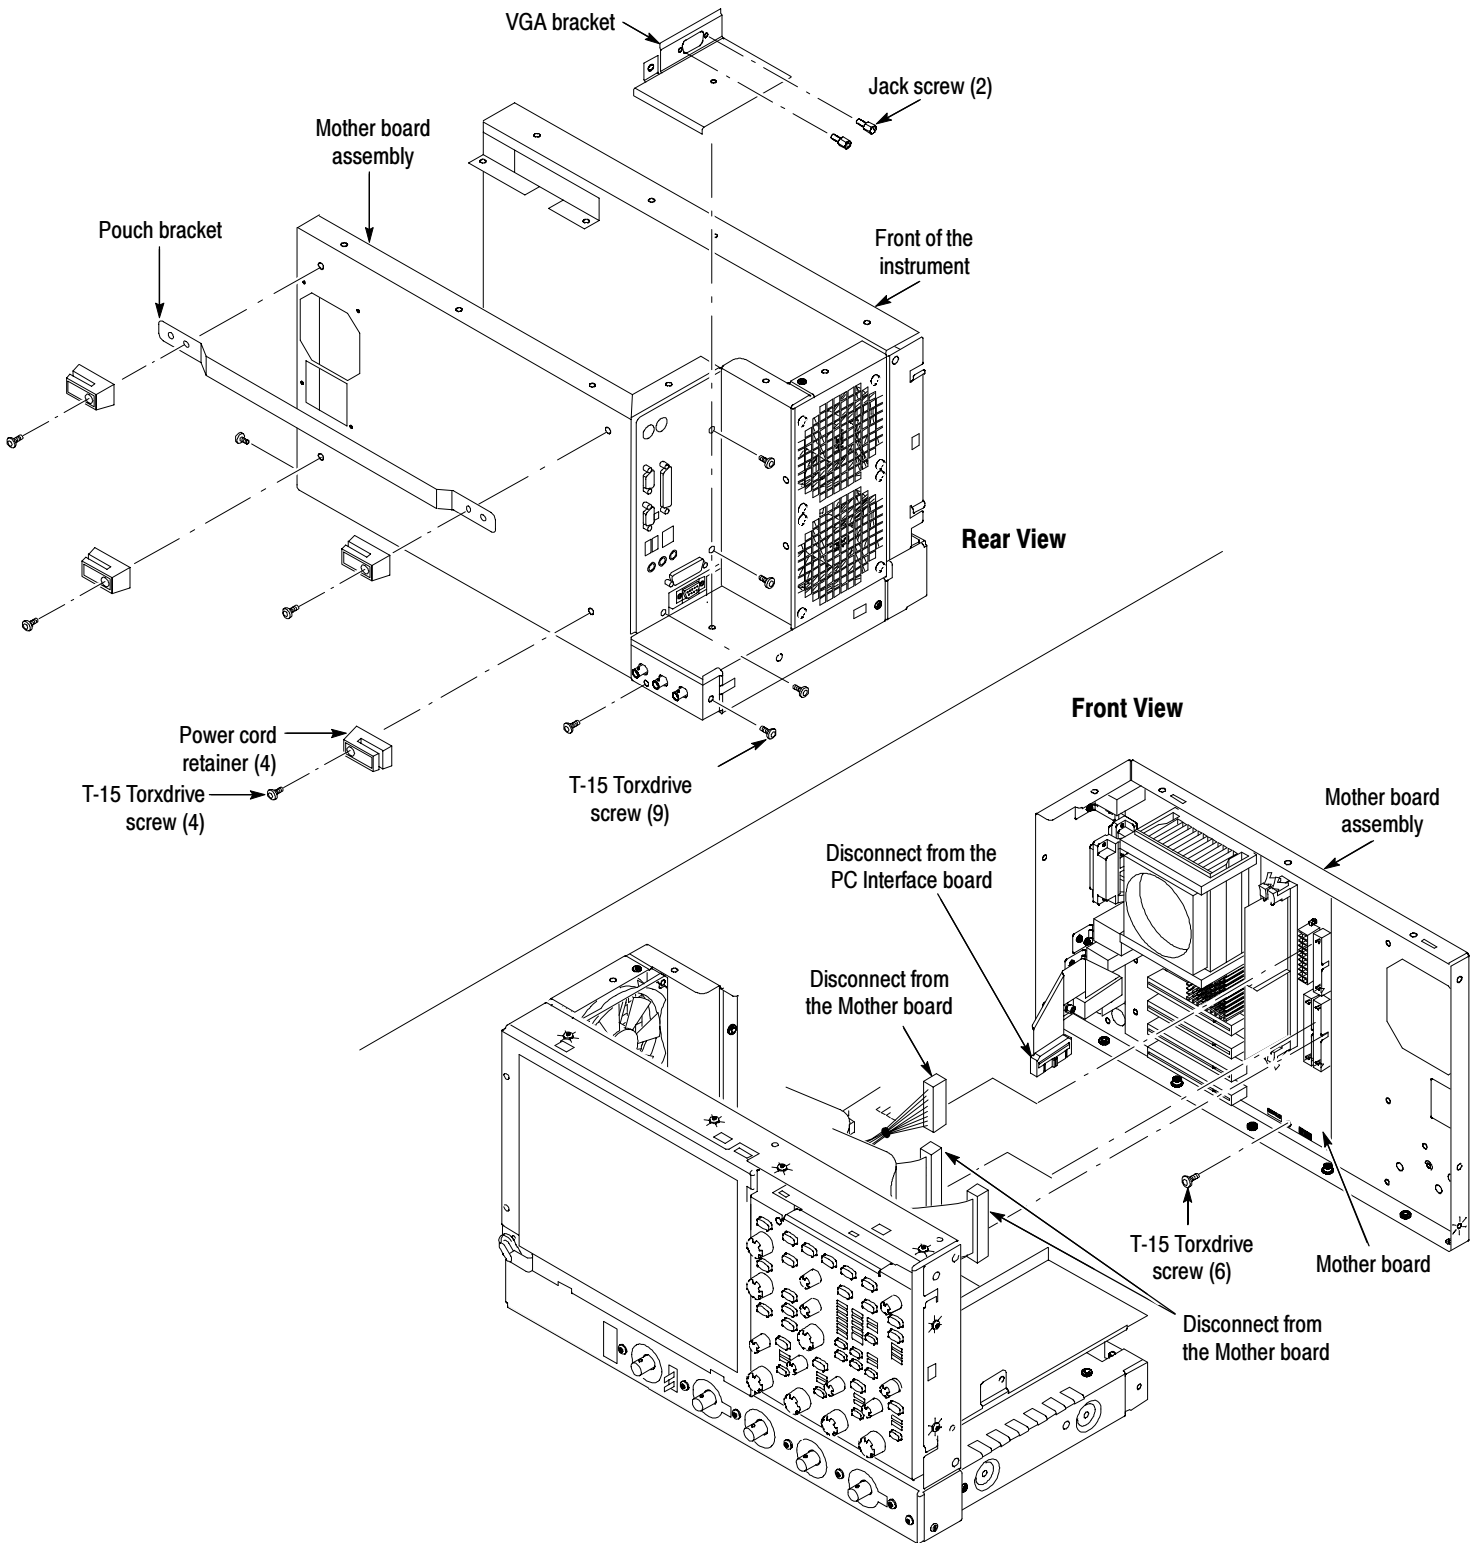

Figure 11: Mother board removal
2. Remove the Mother board assembly: See Figure 11, on page 21.
7. Follow the steps 2b through 2j under *Mother board Assembly* on page 20 in reverse order to reconnect all cables on the Mother board and to install the Mother board assembly in the chassis. If necessary, refer to Figure 1 on page 9 and Figure 11 on page 21 to reinstall all the cables.